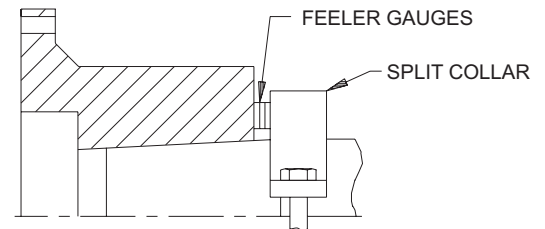
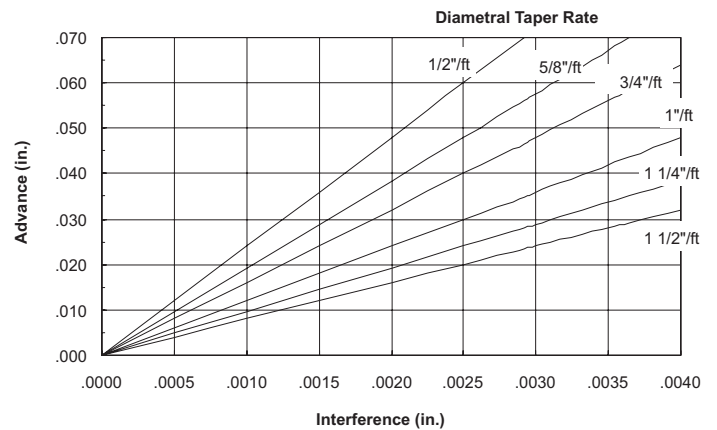

Figure 2. Using Split Collar to Set Advance
Figure 3. Hub Advance vs. Interference Chart
2.5 Taper Bores Only: A recommended method to measure the hub advance is to install a split collar on the shaft, away from the hub by the amount of the specified advance. Use feeler gauges for accurate spacing. See Figure 2. The amount of hub draw is dependent upon the desired interference and taper angle as specified by the machine manufacturer or as given on the coupling drawing. See Figure 3.